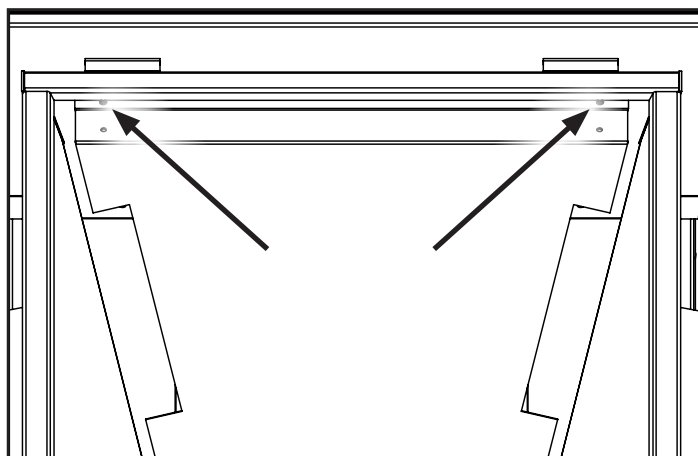

Figure 59. Baffle Screws.
2. Remove the firebox baffle by unscrewing the two screws indicated in Figure 59 using a T20 screwdriver. Lower the front of the baffle down and then lift it out of the two locating screws at the rear of the firebox.